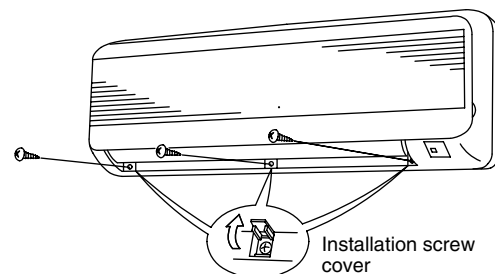

Fig. 3-23
- (3) Adjust the flap so that it is horizontal. (Fig. 3-23)
(4) Open the installation screw covers below the grille (3 locations). (Fig. 3-23)
(5) Remove the screws. (Fig. 3-23)